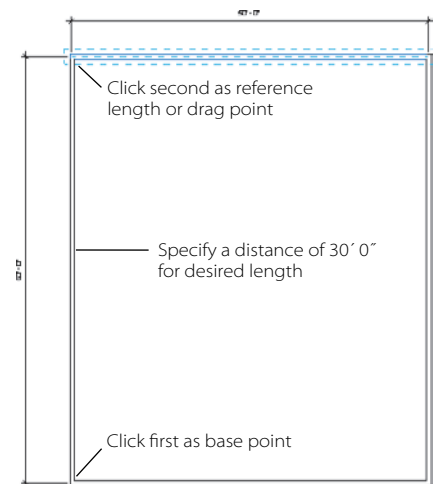

Figure 3.27
3. Select the lower end point of the wall for the first input, the origin point, or the base point (Figure 3.27).